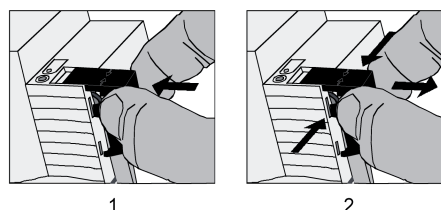

Figure 3: Installing / removing the protective cap for the bus connection
- To install the cap: slide the cap over the bus terminal until you feel it engage (Figure 3).
- To remove the cap: Remove the cap by pressing the sides slightly and by pulling it out to the front (Figure 3).